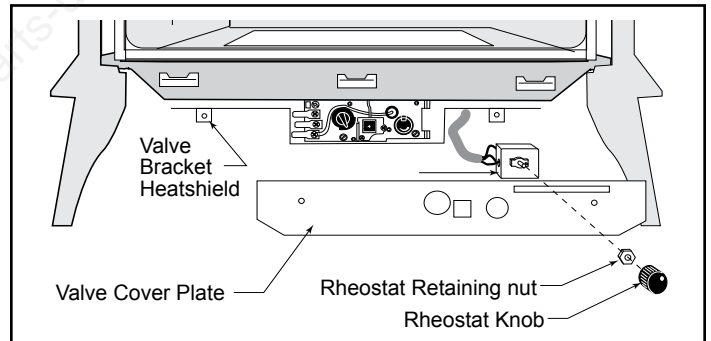

Figure 53 - Attach fan rheostat to valve cover plate.
Or, if you have a stove with a valve cover plate: Pass the rheostat cord under the firebox. Remove the valve cover plate by removing two (2) screws from the cover plate. Remove the rheostat knob and retaining nut from the rheostat assembly. Pass the stem of the rheostat assembly through the lower hole at the right side of the valve cover plate, and align the locating pin with the smaller hole. Fasten the stem with the retaining nut. (Figure 53)